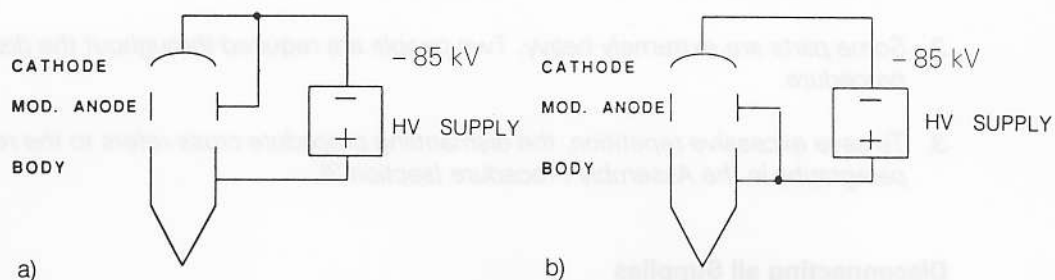

Fig. 58. High-Potting of the Gun
For high-potting a high voltage supply is connected across the mod. anode and body or cathode as shown in Fig. 58. The tube must withstand the max. test voltage (polarity as for normal operation) for at least 10 minutes without any internal arcs.
1. Interconnect cathode and mod. anode or mod. anode and body and apply the HV supply as shown in Fig. 58.
5. High-potting will be completed when, at the final test voltage, the pump current is less than  $1 \mu\text{A}$  and the tube withstands the HV for at least 10 minutes for both cases illustrated in Fig 58.